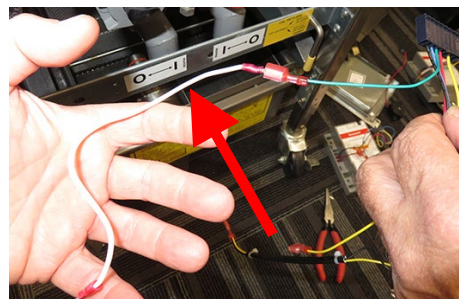

Figure 15
19. Attach the white wire saved from step 8, to the green spade wire of one of the module harnesses (see Figure 15).